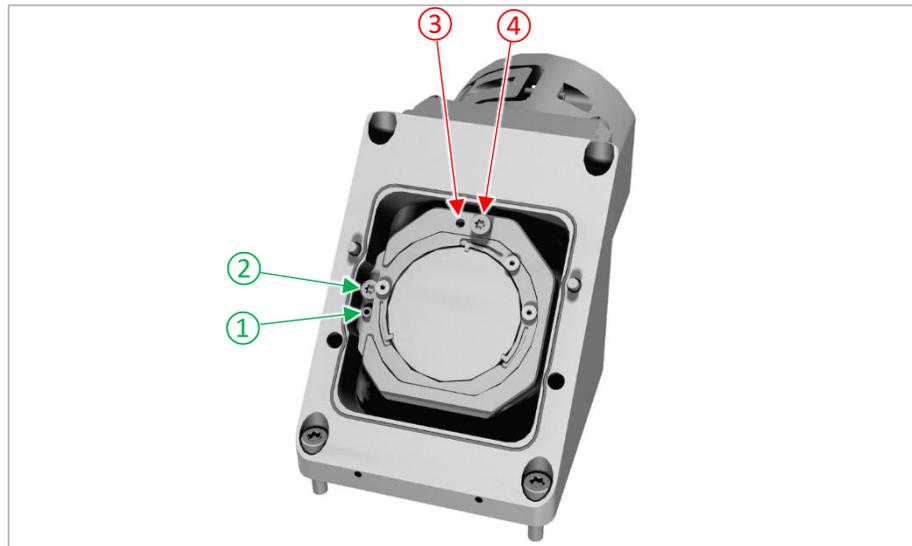

Figure 15: Adjusting for angular misalignment at the LIA
- ii. Use the 4 adjustment screws; see Figure 15 on page 51; which are arranged in pairs around the folding mirror of the LIA to bring the laser beam to the center of the thermopile.
Each pair consists of a pressure screw (1), (3); see Figure 15 on page 51; and a draw screw (2), (4) and is responsible for adjusting one axis. The pair (1), (2) on the side of the mirror is responsible for adjusting the X-axis. The pair (3), (4) above the mirror is responsible for adjusting the Y-axis. The pressure screw raises the mirror holder, and the draw screw lowers it. As the mirror holder is clamped between the screws, both screws must be equally tightened or loosened during adjustment in order to securely lock the mirror holder in position.